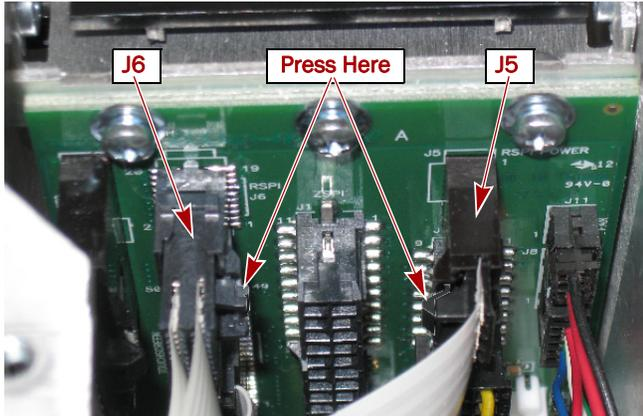

Figure 3. Press the J5 and J6 Release Latches to Release
1. Disconnect the **J5** and **J6** cables (Figure 3) from Card Cage PWA.